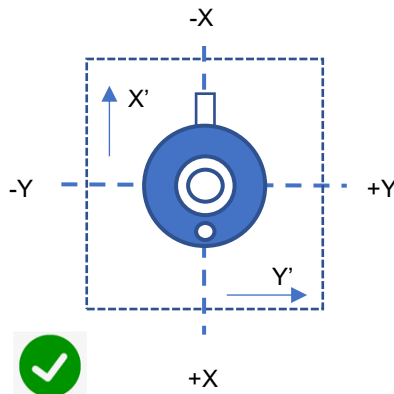
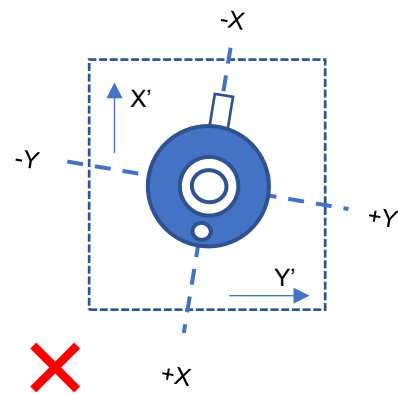

Figure 5-2B Tilt and roll angle corresponding to reference plane
Figure 5-2C Tilt and roll angle not corresponding to reference plane
For setup at inclined plane: Setup the pyranometer with signal cable aligned with the installation platform (X', Y'), see figure 5-2B. When the sensor is not aligned, the tilt (X) and roll (Y) measurement does not reflect the angle X' and Y', see figure 5-2C.